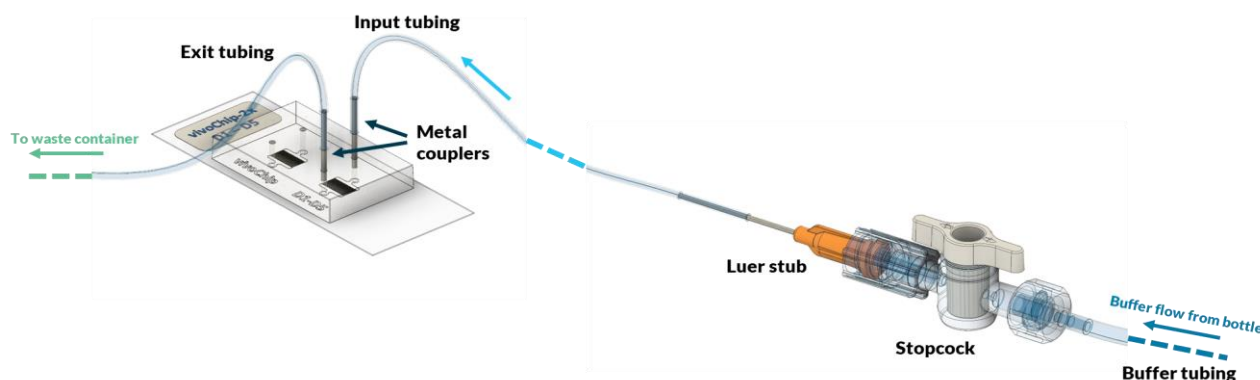

Figure 14: Connection of the input and exit tubing to the vivoChip-2x
- 4.9 Refer to Figure 14 to confirm that the tubing connections to the vivoChip-2x have been made properly.